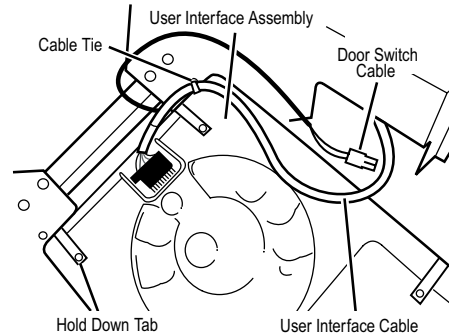

Figure 9. Disconnect cables to remove user interface assembly from console
4. Disconnect the door switch cable from the control board and disconnect the UI (User Interface) cable from the UI. Also cut the cable tie holding the UI cable to the console. See Figure 9.
5. Remove the hold down tabs. See Figure 9.